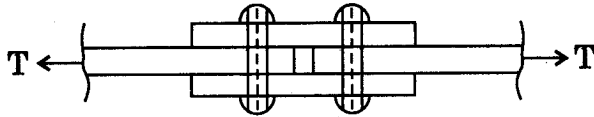

Figure 3
4. A single rivetted double cover butt joint is used to connect two – 12 mm thick plates (Fig. 3). The power driven field rivets of 20 mm are used with cover plates of 12 mm. Calculate the necessary pitch and efficiency of the joint. Assume bearing stress of rivets = 270 N/mm^2 , shearing stress of rivets = 90 N/mm^2 , and f_y for plate = 150 N/mm^2 .